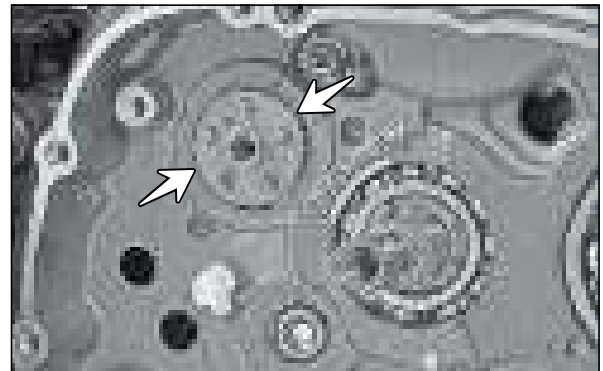

Fig. 3.121
- Take out the pin holder complete from the cam gear shift. (Fig. 3.121)